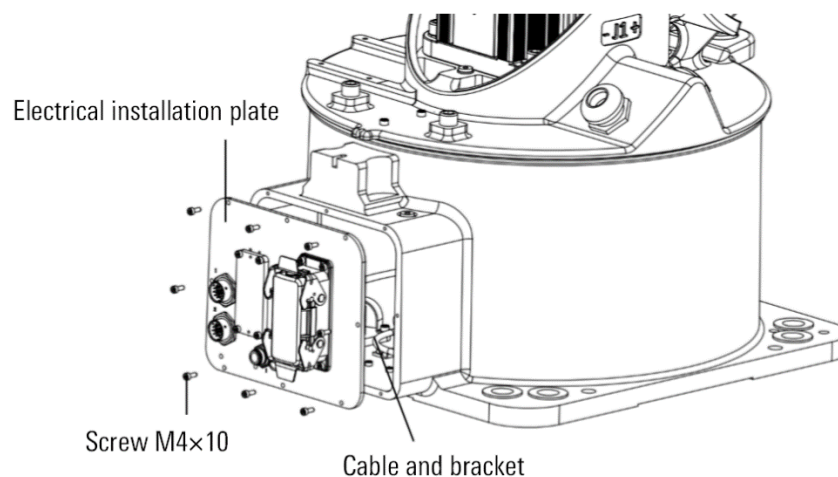

Figure 12-2 Base internal cable
- Step1. Remove the electrical mounting plate as shown in Figure 12-2, and pull out the internal cables of base.
- Step8. The cable in the base to keep the shape "U" type like the Figure 12-2.
When replacing the grease, please refer to Figure 12-2 for the attitude of the manipulator.